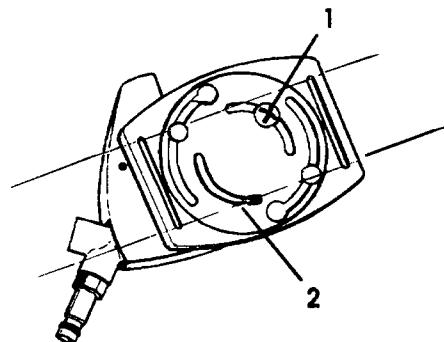

Fig. 2
- a) Release screw (Fig. 2 (1)) and rotate disc (Fig 2 (2)) and tighten screw.